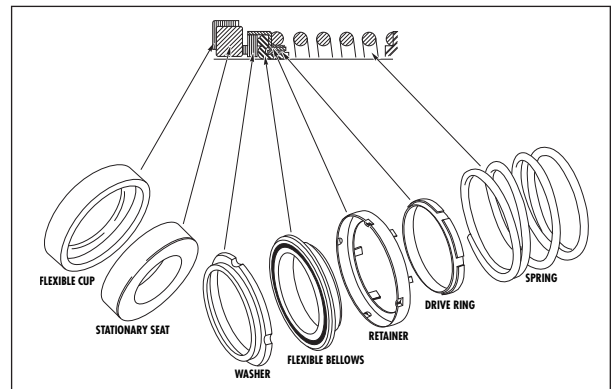

Figure 1. Mechanical Seal
III. Place the seal's spring, drive ring, retainer, flexible bellows, and washer on the shaft sleeve in respective order. (Refer to figure 1)
I. Place one seal seat in collar (54), the other one fits into seal gland (49). These parts are set into their cavities in the same manner as they are with a single seal.
II. Place o-rings (51) around collars (54) and put the collars with stationary seats facing away from impeller on ends of the shaft, then slide flexible bellows, washers, and springs on the shaft in order shown in figure 1, for each half of double seal assembly (53).